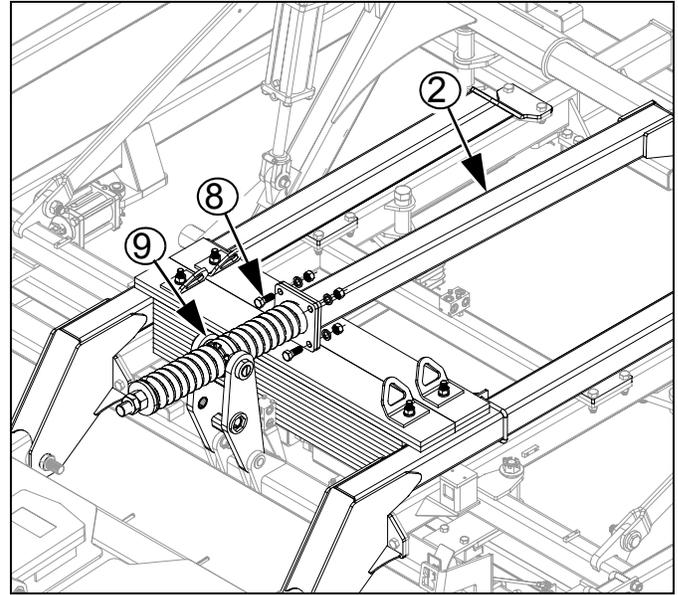

Figure 11
**Refer to Figure 11**
11. Pivot level bar (2) and the level bar spring assembly (9) until holes in plates are aligned.
12. Re-install  $\frac{3}{4}$  x 2 Gr. 8 bolts (8), secure with  $\frac{3}{4}$  lock washers and nuts.
13. Torque  $\frac{3}{4}$  x 2 Gr. 8 bolts (8) to 375 ft lbs to be sure bolts do not work loose and cause damage to machine.